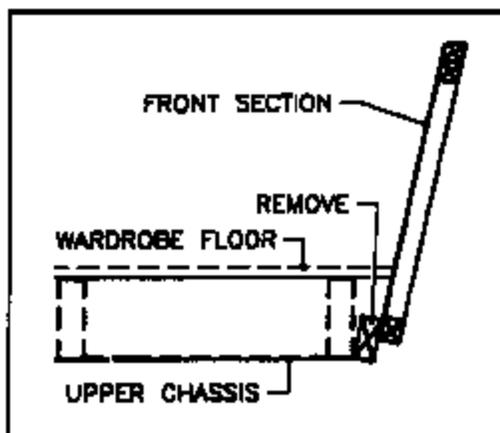
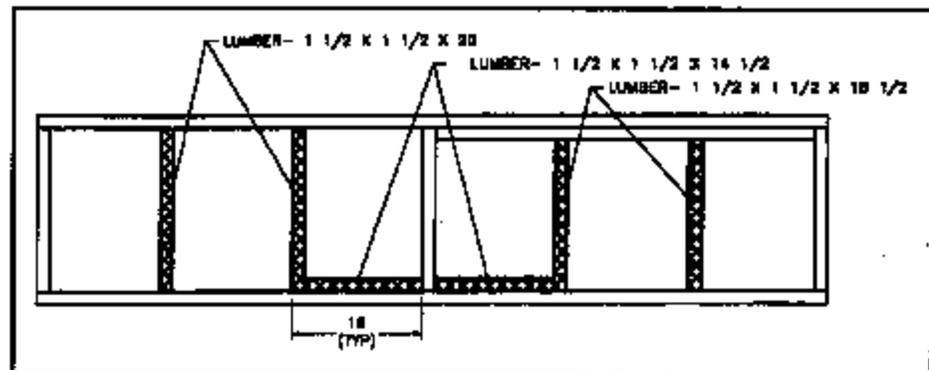

Figure 1
Figure 2
4. See Figure 1. Remove and discard the 2 X 4 as shown. Reinforce the front by adding $1 1/2$ " X $1 1/2$ " framing. Fasten with white glue and staples. See Figure 2.